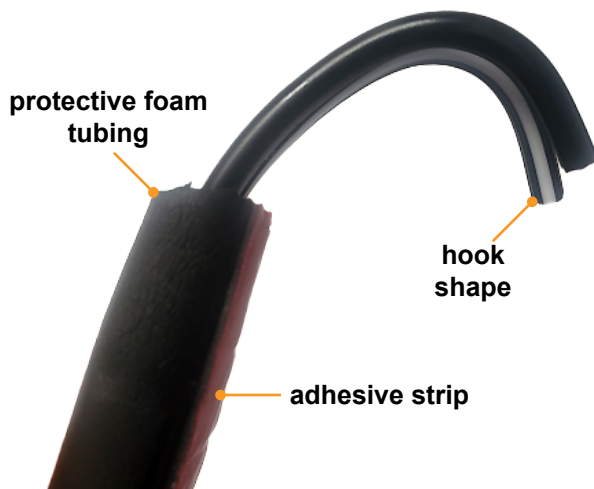

Fig.29
- B.** Form the exposed wires into a hook shape (Fig.29) so they will feed successfully through the elbow shroud.